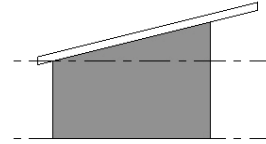

Figure 7-1.12 South elevation – Shed roof (revised)
47. Switch to the South view to see the change (Figure 7-1.12).